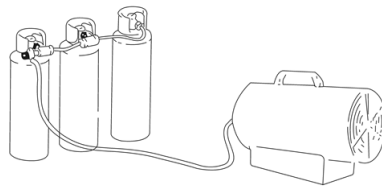

Figure. 2
- For every kilowatt (KW) of heater power, there must be a permanent ventilation area of 25cm³. This ventilation should be evenly split between floor and ceiling levels, with a minimum total outlet of 250 cm³ to ensure safe operation and avoid gas accumulation.
- If the heater runs at maximum capacity for extended periods, ice may form on the gas cylinder due to excessive vapor withdrawal. However, the cylinder should never be heated to address this issue. To avoid or reduce this effect, a larger cylinder or two linked cylinders should be used (see Figure 2).